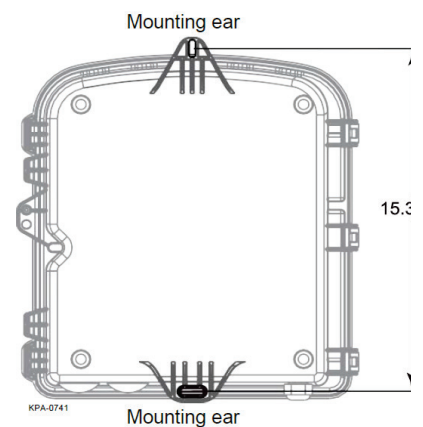

Figure 2
**Step 2** Using the housing as a template (Figure 2), ensure the unit is square and mark the locations for the mounting hardware. Install appropriate anchors (not provided) to the surface to which the housing will be attached. Use shims (not provided) on uneven surfaces to ensure the housing is square and to prevent warpage. Place the unit on the mounting surface over previously determined mounting location.